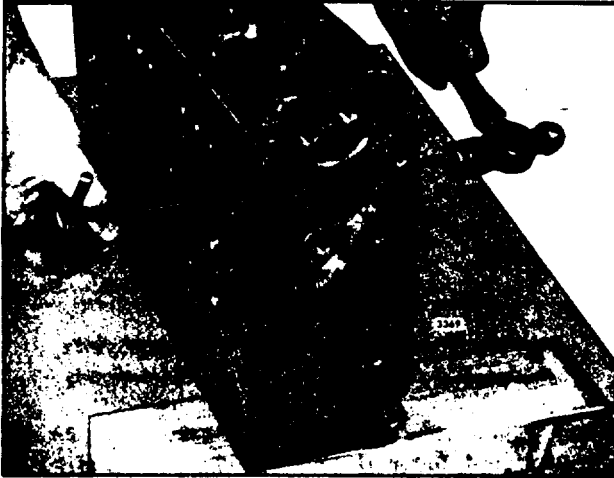

Fig. 7. - Removing Valve Seat Insert
1. Place the cylinder head on its side on a bench as shown in Fig. 7.